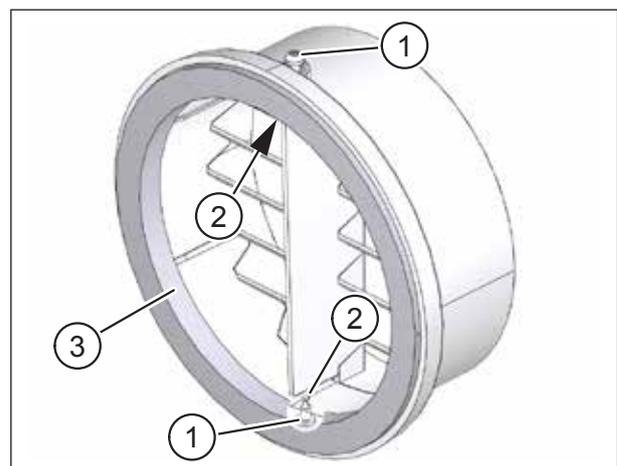

Fig. 13: Applying Vaseline
- ▶ Unscrew the two Torx screws (item 1 in Fig. 13) from the outer wall terminals until you can no longer see the tips of the screws in the holes (item 2 in Fig. 13).
- ▶ Apply the Vaseline provided to the inside of the black sealing ring (item 3 in Fig. 13) on each of the outer wall terminals.